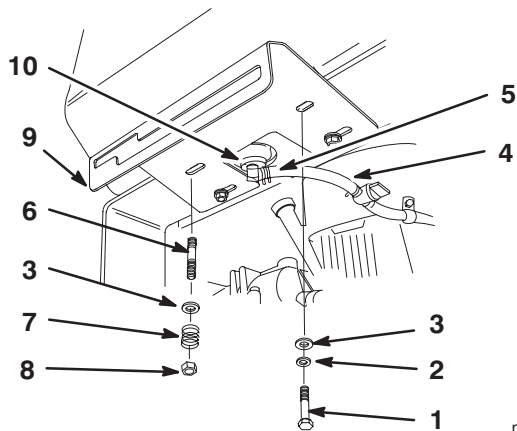

Figure 3
4. Secure the right side control panel and fuel tank to the rear frame (Fig. 3) with 2 bolts (5/16 x 7/8 in.), lock washers (5/16 in.) and washers (5/16 in.) (Fig. 3).
5. Secure the left side control panel and fuel tank to the rear frame (Fig. 3) with 2 studs, washers (5/16 in.), springs and locknuts (5/16 in.) (Fig. 3).
6. Slide the hose clamp onto the fuel line (Fig. 3).
7. Push the fuel line onto the fuel tank connection and secure it with a hose clamp (Fig. 3).